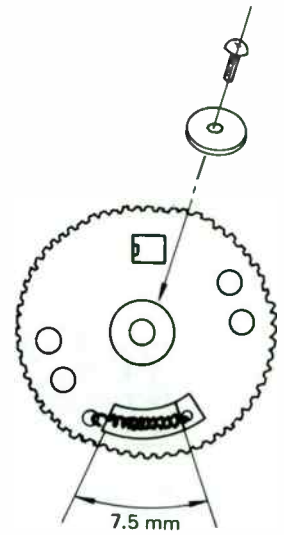

Fig. 32
2. Connect the gears with the spring as shown in Fig. 32.
Pull gear spring about 7.5 mm, as shown in Fig. 32.